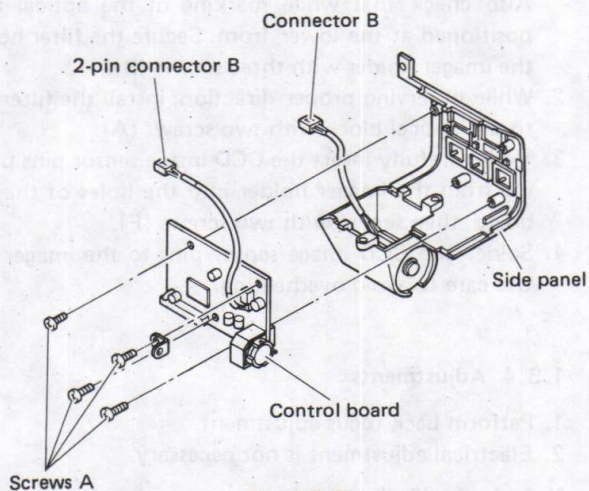

Fig. 1-2-2
1. Refer to Fig. 1-2-2 and take out four screws A. Disconnect connector B and remove the control board from the side panel.